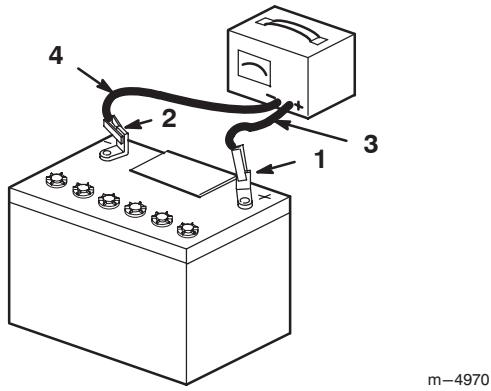

Figure 3
4. Connect a charger to the battery (Fig. 3) and charge it for a minimum of 1 hour at 6 to 10 amps.
5. When the battery is fully charged, unplug the charger from the electrical outlet, then disconnect the charger leads from the battery posts (Fig. 3).